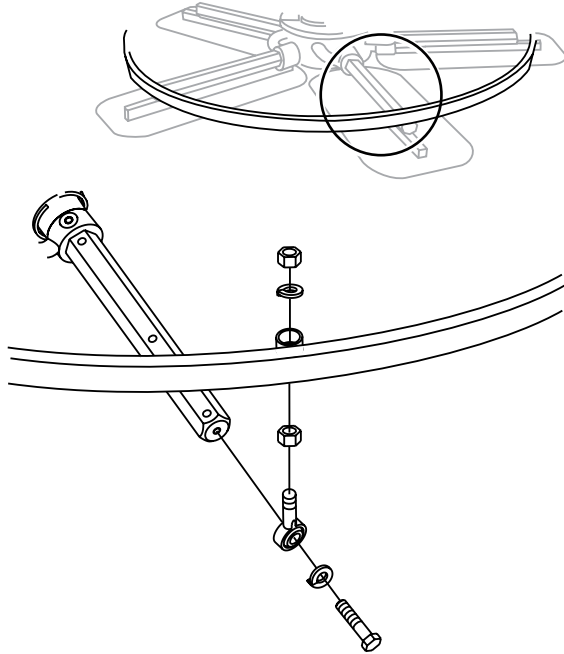

Figure 38. Stabilizer Ring
1. Remove the hardware securing the stabilizer ring to the trowel arm. (Figure 38)
Trowel arms can be damaged by rough handling, (such as dropping the trowel on the pad), or by striking exposed plumbing, forms, or rebar while in operation. A bent trowel arm will not allow the trowel to operate in a smooth fluid rotation. If bent trowel arms are suspect, check for flatness as follows, refer to Figures 38 and 39: